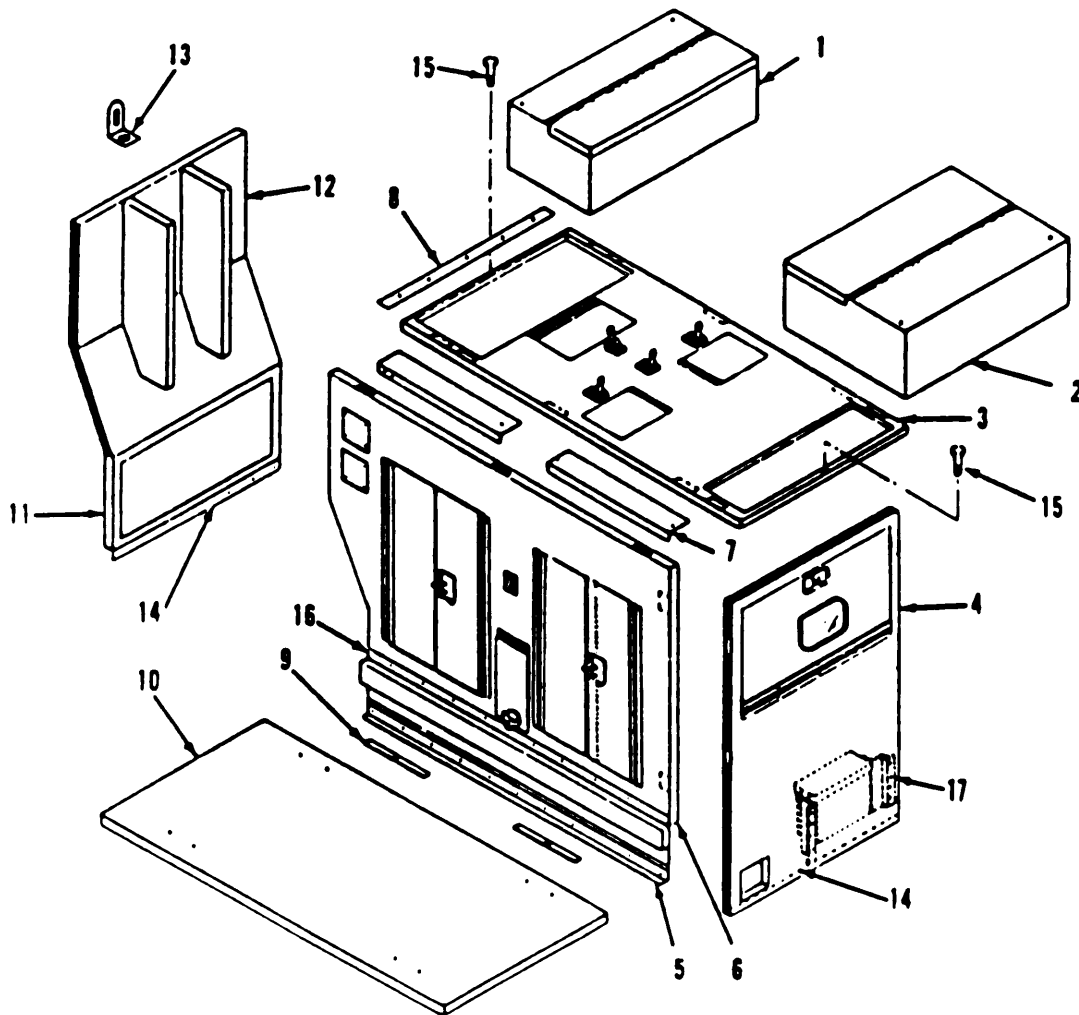

Figure 8-26. Acoustic Suppression Kit Major Components
(24) Position front lower panel assembly on generator set. Ensure top rubber flap is in raised position on radiator shell lip. Remove plastic plugs from rotolock holes. Align male and female rotolocks and, using hex tool, turn rotolocks to secure the front lower panel assembly. (Refer to figure 8-26.) Install plastic plugs. Ensure mounting zee is below bottom tray assembly.
(25) Attach lifting strap, and raise front top panel assembly into position on side panels. Ensure alignment pins fit in holes for proper alignment. Remove plastic plugs from rotolock holes. Align male and female rotolocks and, using hex tool, turn rotolock to secure the front top panel assembly. Remove lifting strap. (Refer to figure 8-26.) Install plastic plugs.
(26) Position exhaust extension on engine exhaust. Install and tighten clamp to secure the exhaust extension. Exhaust extension opening must be pointed down and must not interfere with other components later.
(27) Attach lifting strap and position rear panel assembly on generator set. Ensure alignment pins are in holes for proper alignment. Remove plastic plugs from rotolock holes. Align male and female rotolocks and, using hex tool, turn rotolocks to secure the rear panel assembly. Remove lifting strap. (Refer to figure 8-26.) Install plastic plugs. Ensure mounting zee is below bottom tray assembly.
(28) Attach lifting sling to roof panel assembly, and position on generator set. Ensure alignment pins are in holes. It may be necessary to use C-clamps to pull the side panels into position using the lifting clevis as an anchor for the C-clamp. Remove plastic plugs from rotolock holes. Align male and female rotolocks and, using hex tool, turn rotolocks to secure the roof panel assembly. Remove the lifting sling. (Refer to figure 8-26.) Install plastic plugs. Install two sockethead capscrews to secure roof panel assembly.
(29) Raise sealing angle until it contacts roof, and tighten mounting hardware.
(30) Tighten capscrews securing mounting members.
(31) Attach lifting sling to inlet turn assembly, and position on roof assembly. Remove the lifting sling. Remove plastic plugs from rotolock holes. Align male and female rotolocks to secure the inlet turn assembly. (Refer to figure 8-26.) Install plastic plugs.
(32) Attach lifting sling to discharge turn assembly, and position on roof assembly. Remove plastic plugs from rotolock holes. Remove lifting sling. Align male and female rotolocks and, using hex tool, turn rotolocks to secure the discharge turn assembly. (Refer to figure 8-26.) Install plastic plugs.
(33) Position upper side panel skirt on side panel and install screws, washers, keepers, and capscrews.